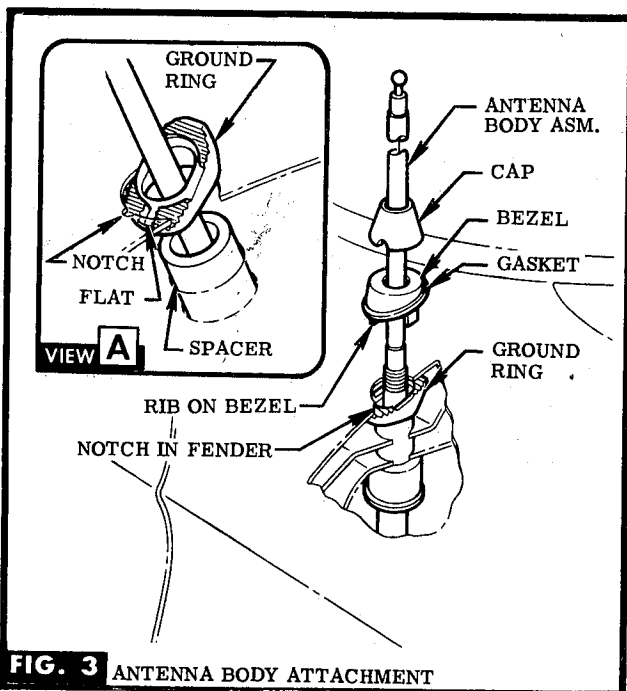

FIG. 3 ANTENNA BODY ATTACHMENT
STEP 4 FULLY EXTEND ANTENNA BODY ASM., THEN LOWER THRU DRILLED HOLE. SEE FIG. 3.
STEP 7 SUB-ASSEMBLE GASKET TO BEZEL. PLACE GASKET, BEZEL & CAP ONTO ANTENNA BODY ASM. POSITION RIB ON BEZEL INTO NOTCH IN FENDER. SECURE CAP WITH SPANNER WRENCH. SEE FIG. 3.